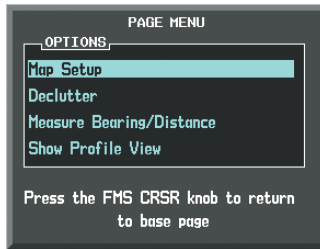

Figure 6-169 Navigation Map Page Menu
- 3) With Map Setup highlighted, press the **ENT** Key (Figure 6-169).